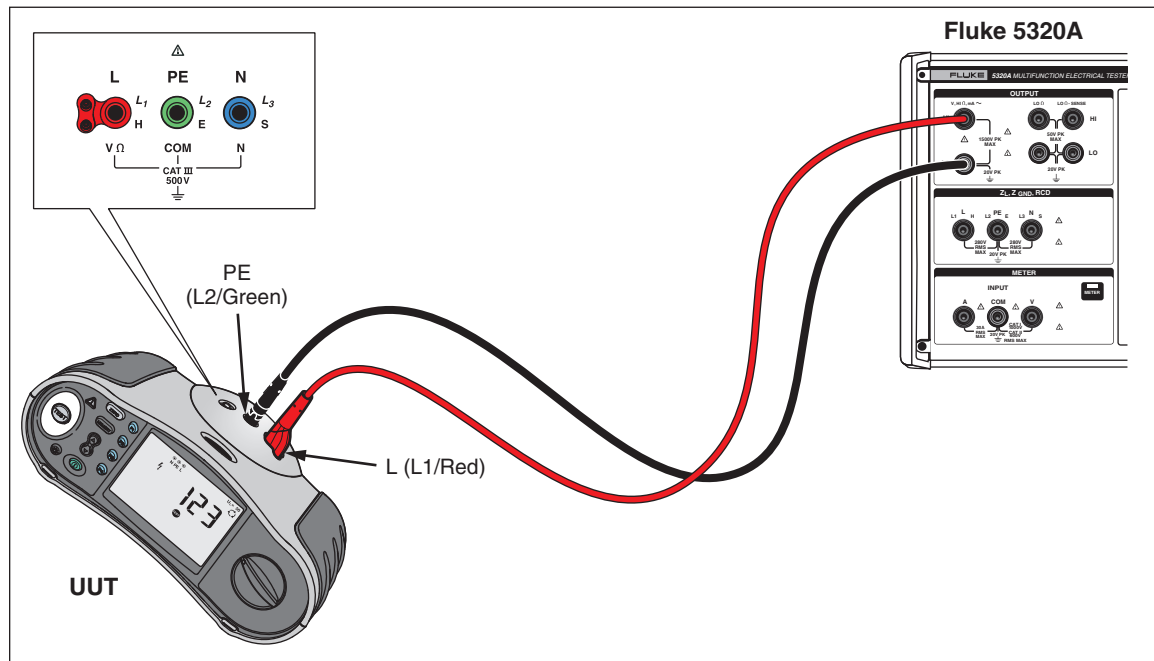

Figure 5. Volts and Insulation Accuracy Tests
3. Connect the L and PE input jacks of the UUT to the 5320A V, HIΩ, mA~ Output terminals as shown in Figure 5.